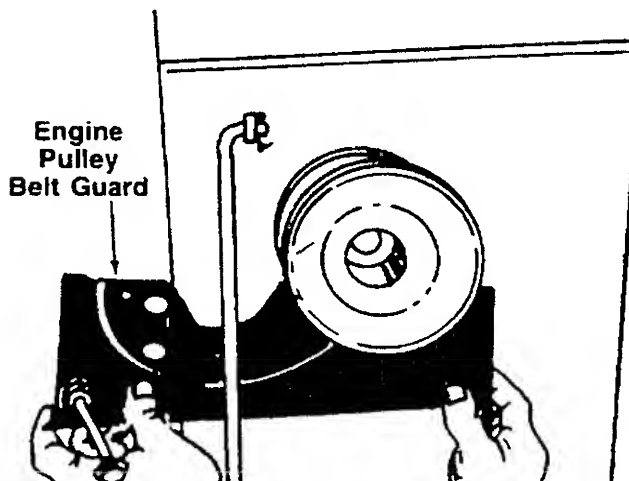

FIGURE 24.
6. Remove the engine pulley belt guard by slipping it back and to the right. See figure 24.